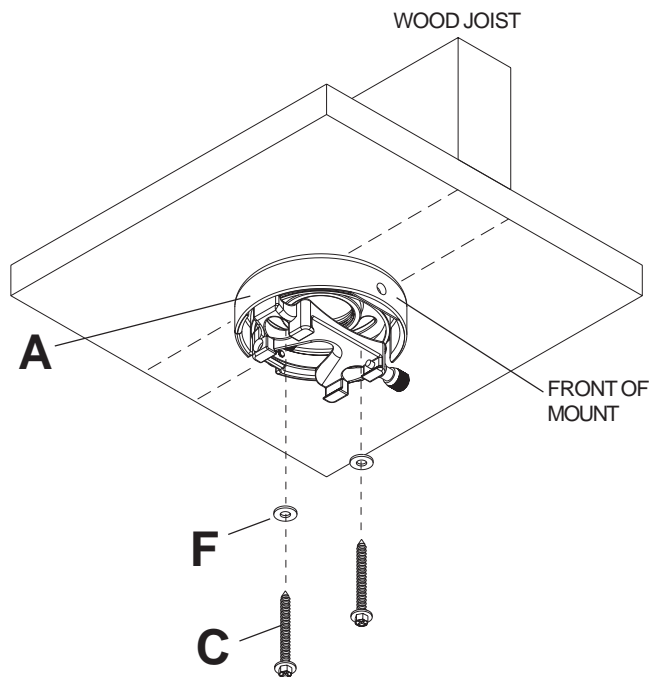
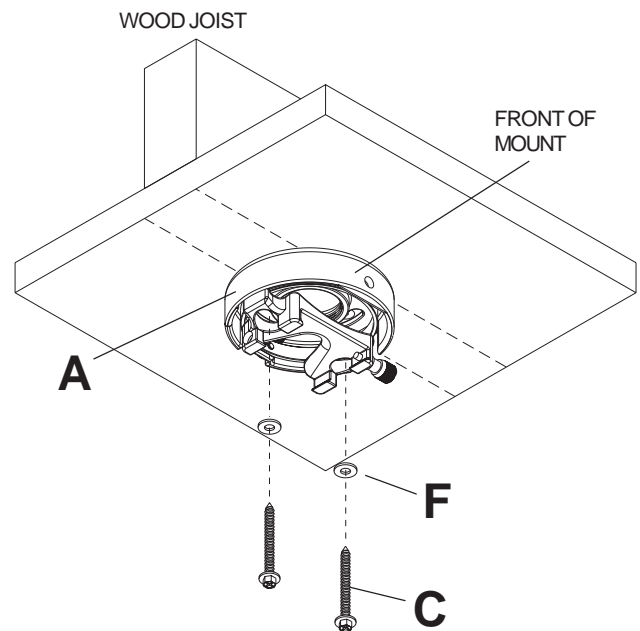

fig. 2.1
fig. 2.2
2 Place projector mount assembly (A) on ceiling as a template and mark the center of the two mounting holes. Make sure that the mounting holes are in the center of the wood joist. Drill two 5/32" (4 mm) dia. holes to a minimum depth of 2.5" (64 mm). Attach projector mount assembly (A) with two #14 x 2.5" (6 mm x 65 mm) wood screws (C) and two flat washers (F) as shown in **figure 2.1** or **figure 2.2** depending on joist orientation.